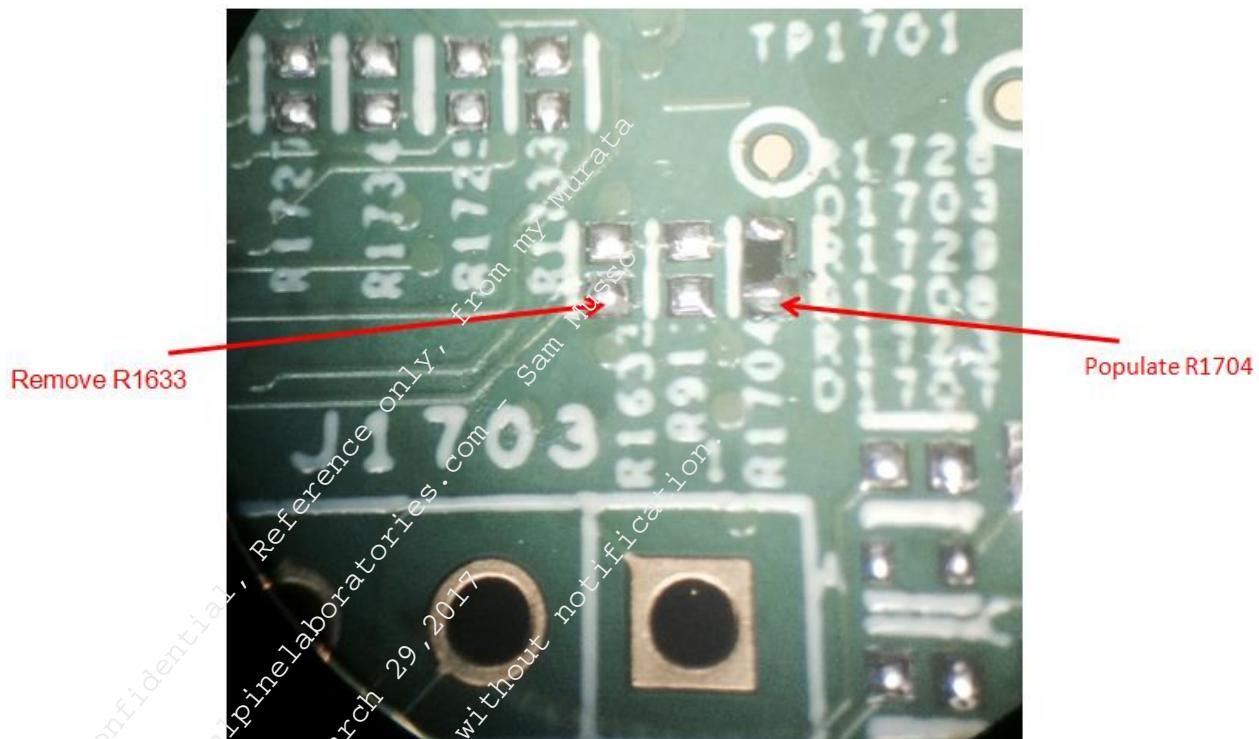

Figure 42: Rework for the i.MX 6Ultralite EVK
- 1) The only (optional) rework on the i.MX 6UltraLite EVK is to connect WL_HOST_WAKE. To connect out-of-band interrupt signal, disconnect ENET2_RX_ER from U1601 (default is Ethernet connection), and connect to WL_HOST_WAKE instead. Figure 42 illustrates this change. These resistor pads are located on the top of the i.MX6UL EVK next to the SD card connector (P1701). The easiest approach is to remove the Zero Ohm resistor from R1633 location and move to R1704 location.